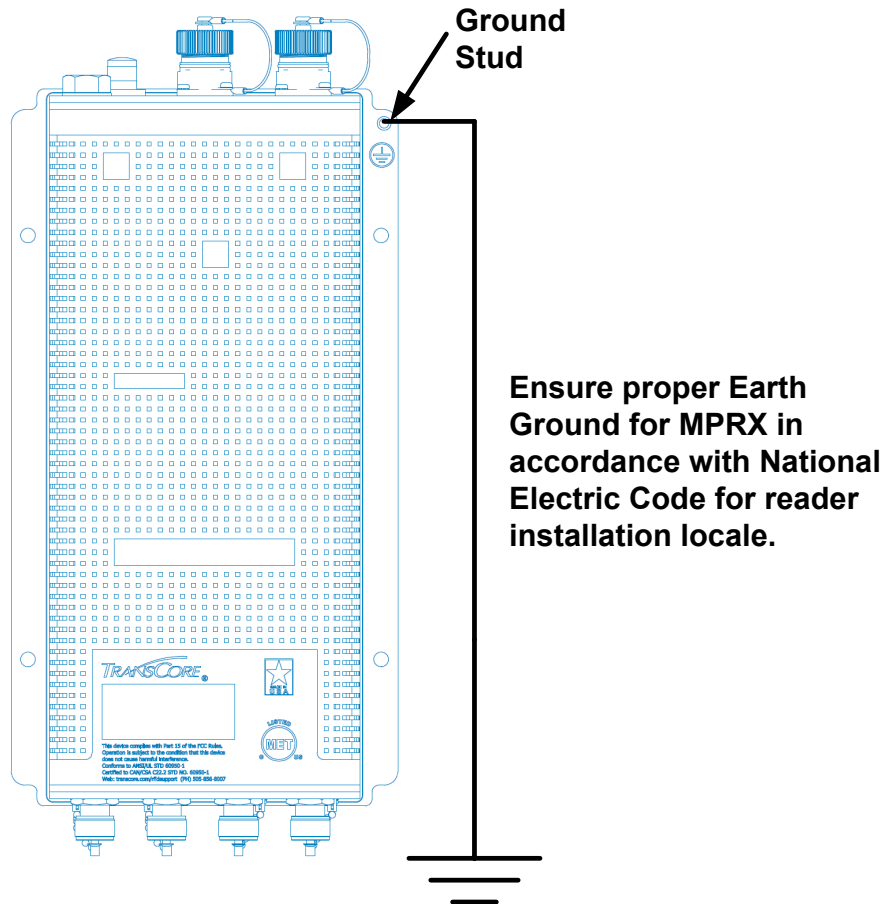

Figure 4–5 Location of MPRX Ground Stud
1. Connect the MPRX to Earth Ground. Figure 4–5 shows the location of the MPRX ground stud.